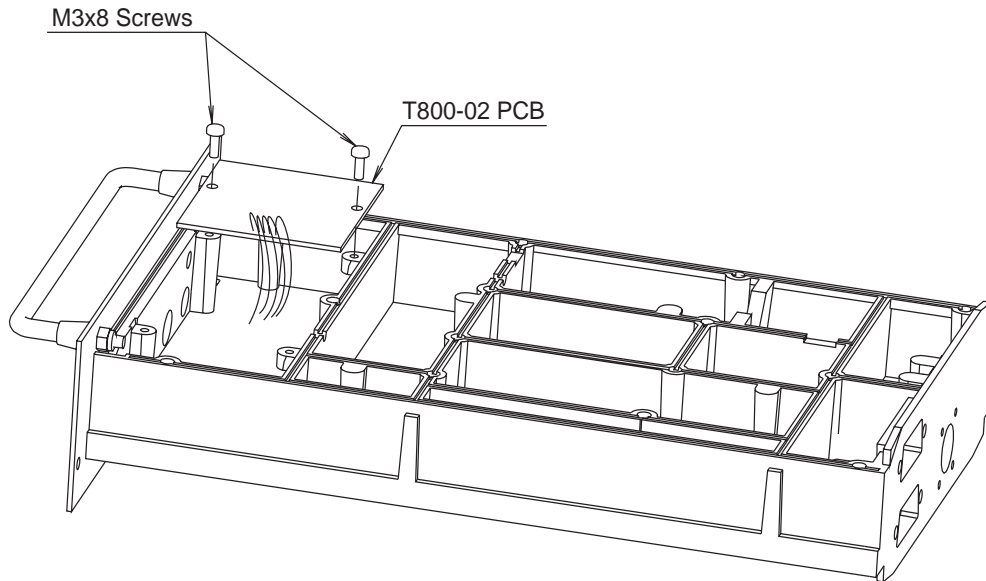

Figure 1 T800-02 To T800 Series I Mounting Details
1. Mount the T800-02 PCB in the T800 Series I receiver or transmitter as shown in Figure 1.